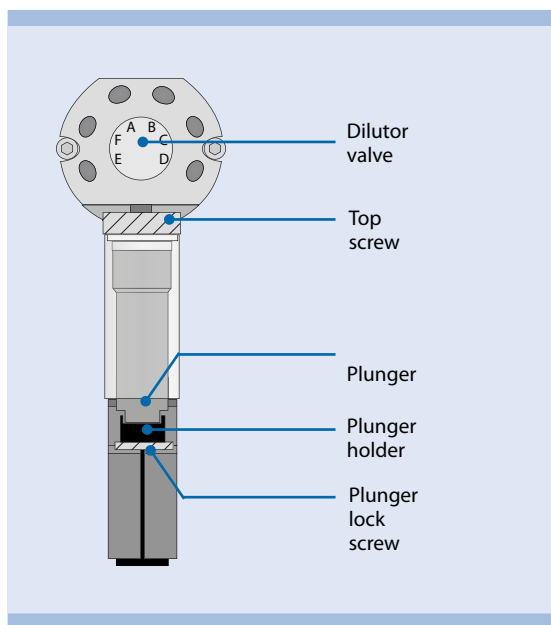

Figure 7.2: Dilutor valve with pump syringe.
- 11 Pull the plunger out of the syringe until it reaches its fitting in the plunger holder. The plunger must have the same orientation as the fitting (see figure 7.2). Tighten the plunger lock screw.